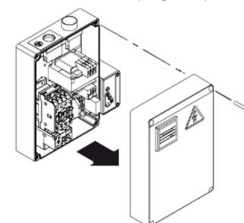

Fig 5.2 Starter Couverture
5.4 Installation électrique (Fig 5.2, 5.3, 5.4)
Remove 4 Screws and Starter Cover (Fig 5.2).